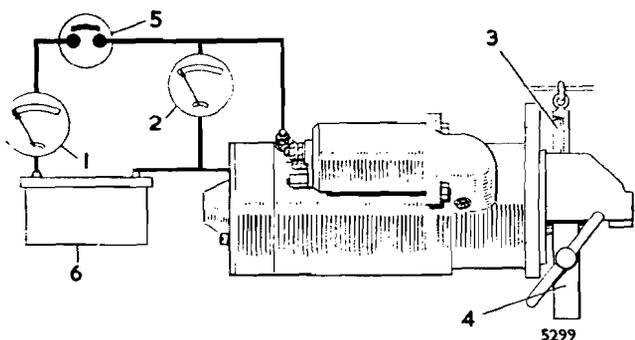

Fig. L.8
- (2) Carry out a lock torque test (see Fig. L.8). (If a constant voltage supply is used it is important to regulate the voltage at the starter terminal to 6.4 volts when testing.) The lock torque should be 32.5 lb. ft. (4.49 kg. m.) with 900 amps. at 6.4 terminal volts.
- (3) Torque at 1,000 r.p.m. should be 15.5 lb. ft. (2.14 kg. m.) with 570 amps. at 8.8 terminal volts.